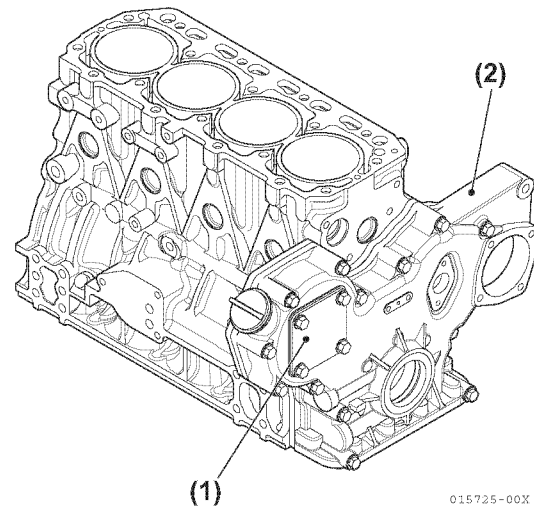

Figure 6-57
14. Remove the fuel injection pump drive gear cover (Figure 6-57, (1)) from the gear case cover (Figure 6-57, (2)).